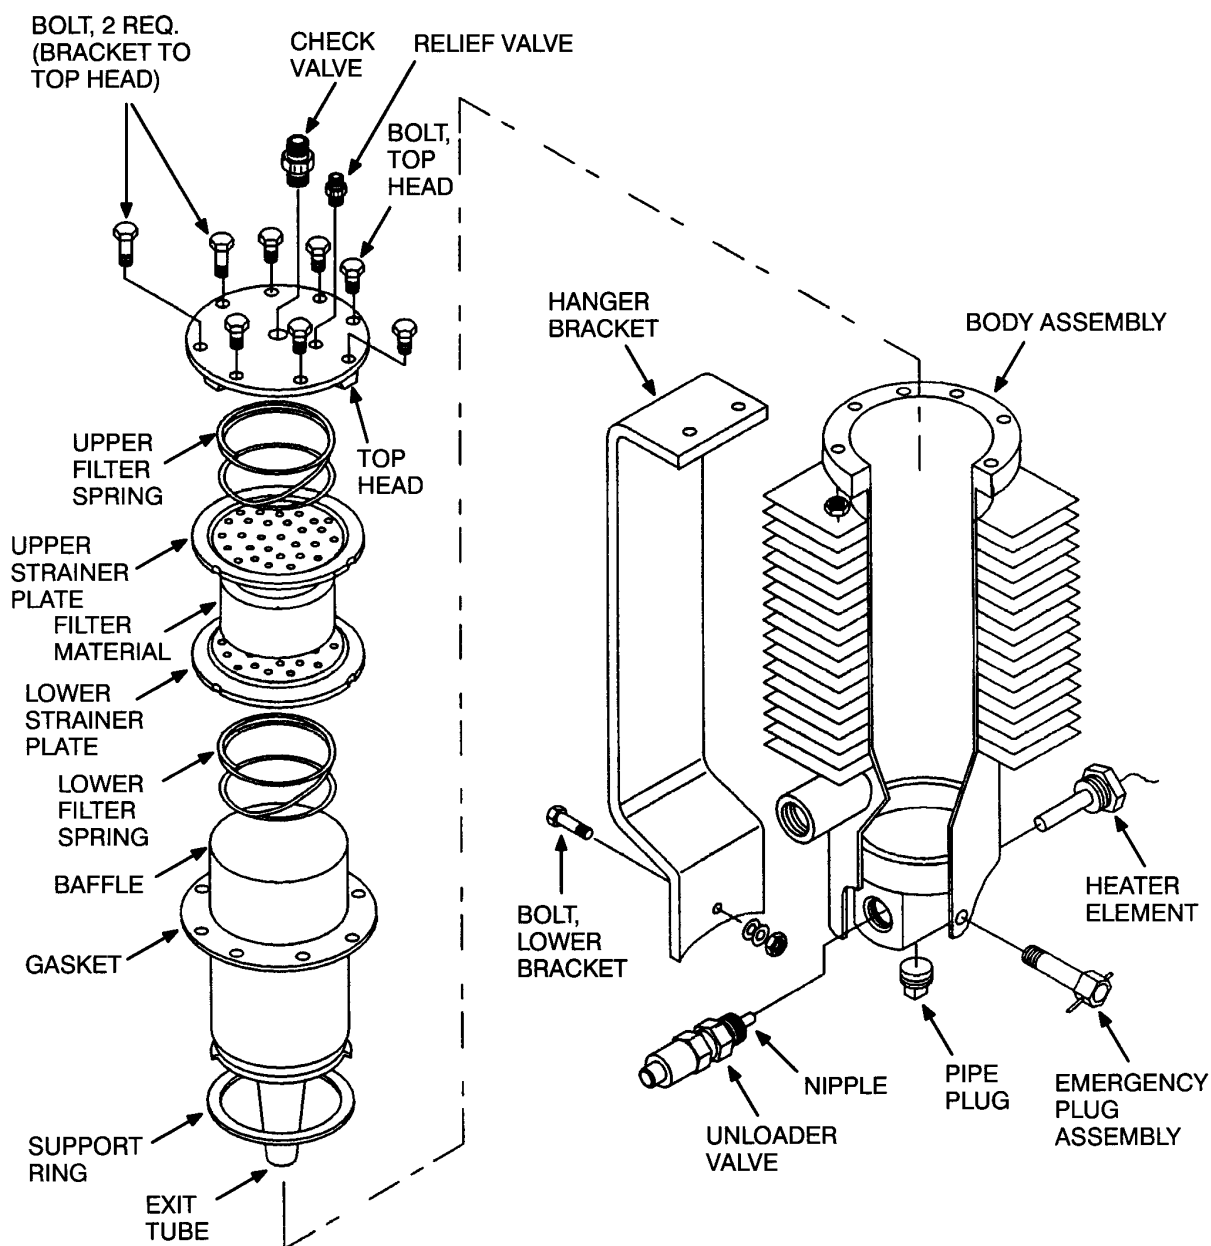

Figure 86 Air Dryer Exploded View
4. Unthread the unloader valve from the nipple in the side of the dryer base (Figure 86).
Disassemble (Figure 86) - Air Dryer
2. Remove the two bolts that secure the mounting bracket to the top head (Figure 86). Mark the two bolts that secure the dryer mounting bracket to the top head to insure they are reinstalled in the same location.
3. Remove the remaining six bolts that secure the top head to the body assembly (Figure 86). Care should be taken while removing these bolts. The components held inside the dryer by these bolts are under spring tension.
Refer to Figure 86 for all items referenced in the following text.